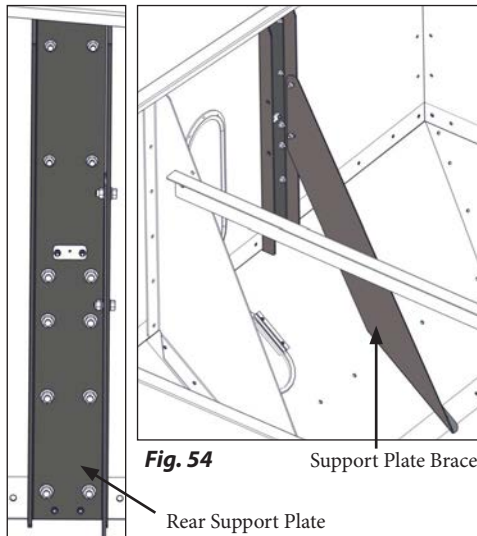

Fig. 53
- Attach the auger rest weldment to the front support plate using the auger pin and (2) snap rings.
- Attach the support plate brace on the inside of the cart. Use (4) M10 x 25 hex bolts and hex nuts. (Fig 53)